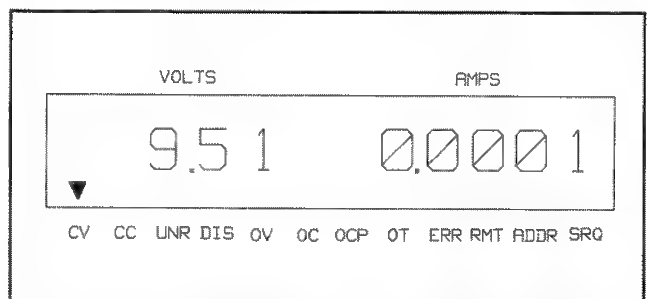

Figure 3-2. Front Panel Display (approx.) After Programming Voltage
Check that the response is about the same as shown in Figure 3-2. Note that the Constant Voltage (CV) annunciator remains on, indicating that the supply is operating in CV mode.